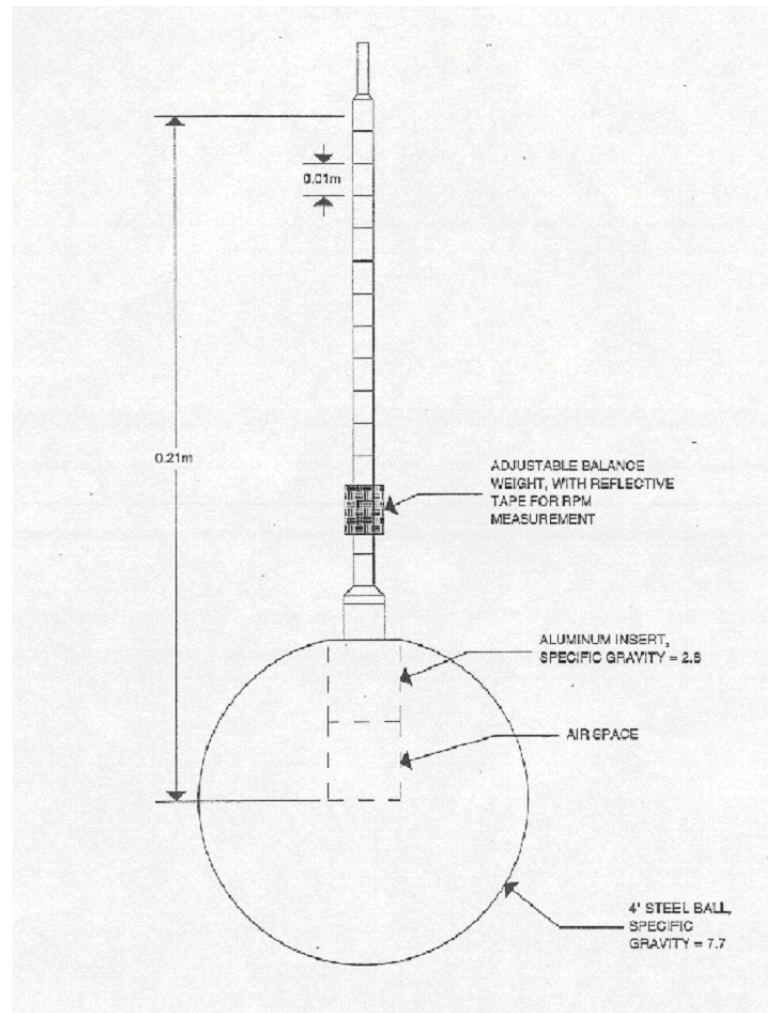

Figure 2: A diagram of the lab gyroscope.
Our experiment uses a rotating sphere mounted on an air bearing (see Figure 2) so that the center of the sphere remains fixed in space (at least relative to the laboratory room). This is called a *gyroscope with one fixed point*.
Our lab gyroscope is a steel ball on an air bearing (see Figure 2). On one side of the ball a rod is mounted for reference and for touching. This side of the ball has also been bored out so that the rod side is lighter and the center of mass can be adjusted to either side of the center of the sphere by sliding a balance weight in or out. The balance weight is black, with reflective tape, to make rotation rate measurements easier. The sphere is supported in a spherical cup into which high pressure air is supplied so that the sphere is actually supported by a thin layer of air (similar to the air track).
- (a) Add another weight to the rod so that the gyroscope is no longer balanced. Record its mass and position on the rod for use in calculations later (see Figure 2).